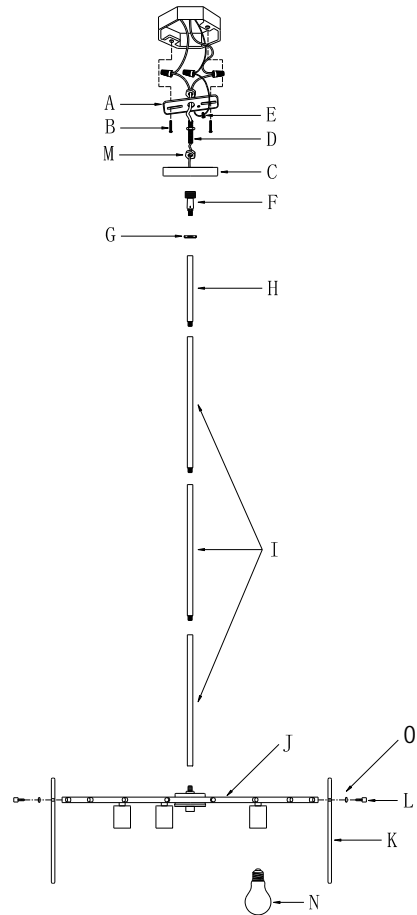

Fig. 2
CONNECTING THE WIRES (Fig. 2)
7. Connect electrical wires as shown in Fig.2, making sure that all wire connectors are secured. If your junction box has a ground wire (green or bare copper), connect the fixture's ground wire to it. Otherwise, connect the ground wire directly to the crossbar (A) using the green screw (E) provided.